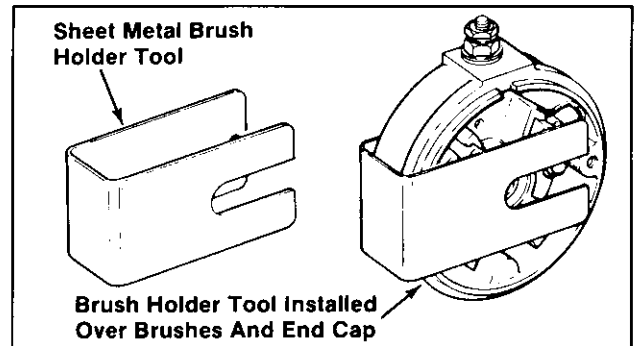

Figure 8-19. Brush Holder Tool.
**NOTE:** Use a brush holder tool to keep the brushes in the pockets. A brush holder tool can easily be made from thin sheet metal. Refer to Figure 8-19.
3. Install the brush holder tool to keep the brushes in the pockets of commutator end cap. Refer to Figure 8-19.